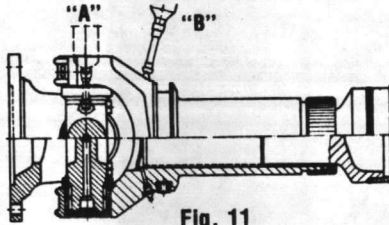

Fig. 11
1. Cross and bearing (Point "A" - Fig. 11) and steady bearing — lubricate with a good quality lithium soap base or equivalent E.P. grease for speeds over 500 RPM or SAE 140 to 250 oil for speeds under 500 RPM. NOTE: Lubricant MUST APPEAR at all four bearing seals to assure removal of dirt and contaminants. It may be necessary to move drive shaft from side to side while applying gun pressure to allow greater clearance on the thrust end of bearing that is not purging.
2. Sliding splines in slip joint - lubricate with only good grade of long fiber grease ("B" Fig. 11).